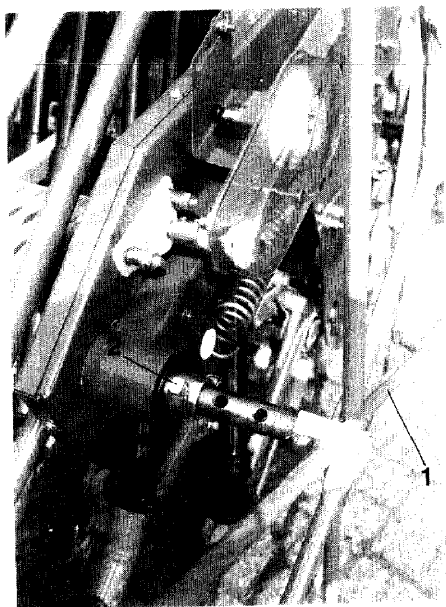

Fig.54
1. Pull out star wheel (Fig. 54/1) of the swivelable drive arm and fix it in a position by a lynch pin (Fig. 54/2) in the second or third hole as shown.
Pull out lynch pin (Fig. 54/2) and push the star wheel fully into the retaining push off the swivelable drive arm and secure it there by a lynch pin (Fig. 54/2).